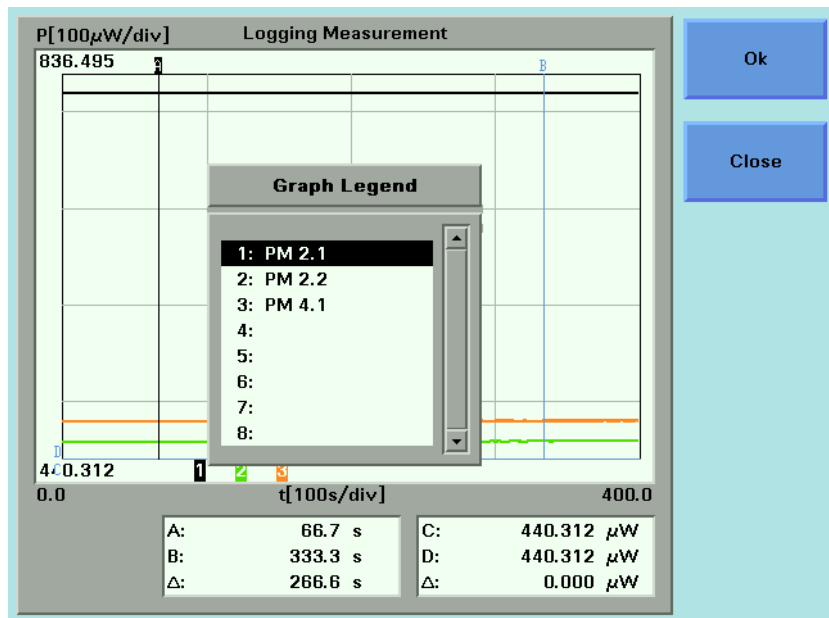

Figure 138 The Graph Legend Screen
- 1 Press the [Menu] softkey and move to *<Legend>*. A list of the Power Meter channels appears that is similar to Figure 138, where all the Power Meters are listed numerically with regard to legend number. All legend texts, if you have not previously edited the legend text, are of the "PM x.y", where x represents the slot number and y represents the channel number.